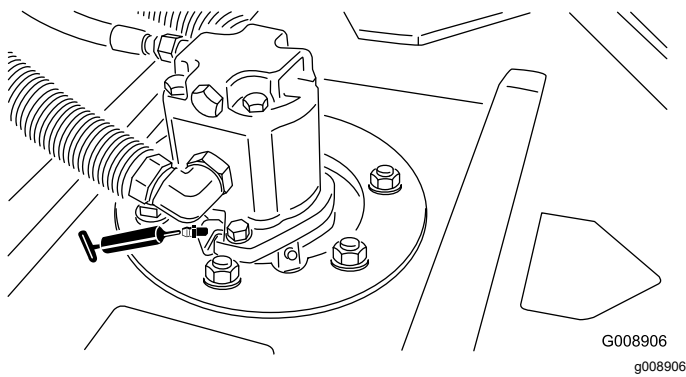

Figure 42
- 2 (per cutting unit) cutting unit spindle-shaft bearings (Figure 42)